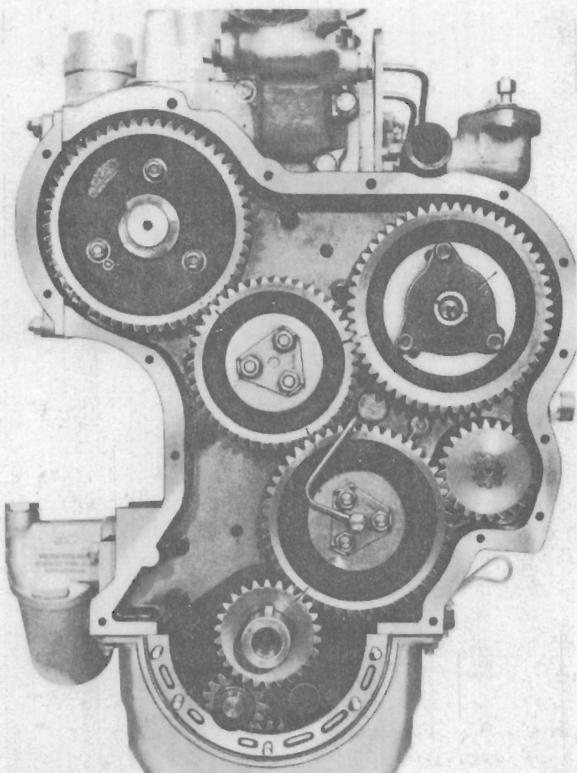

Fig. K.1.
1. Position the timing gears with the marked teeth in mesh as shown in Fig. K.1. This is most easily achieved by turning the crankshaft until the marked teeth of the crankshaft gears are both in mesh with the idler gears, removing the idler gears and refitting with all the marked teeth in mesh.
With the engine timing correctly set, the engine is turned until No. 1 piston is at Top Dead Centre on its compression stroke. In this position, markings are made on the idler gears which coincide with corresponding marks on camshaft, fuel pump and crankshaft gears (see Fig. K.1).
6. With the crankshaft gear fitted, replace the two idler gears, ensuring that the timing marks coincide (See Fig. K.1).